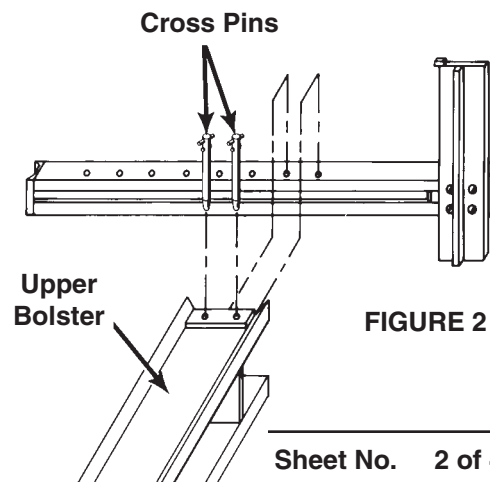

FIGURE 2
2. See Figure 2. Place the upper bolster on a pallet or other suitable support that is 5 to 10 inches (12.7 to 25.4 cm) high. Bring an upright/side plate assembly into the upper bolster in a horizontal position, and secure with two cross pins (#38166 or #44466) per side.